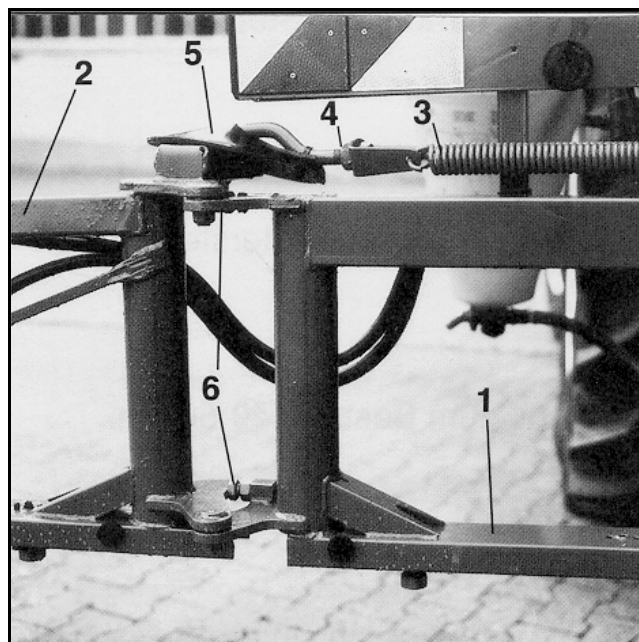

Fig. 59
- Slacken the counter nut of the setting bolt (Fig. 59/6).